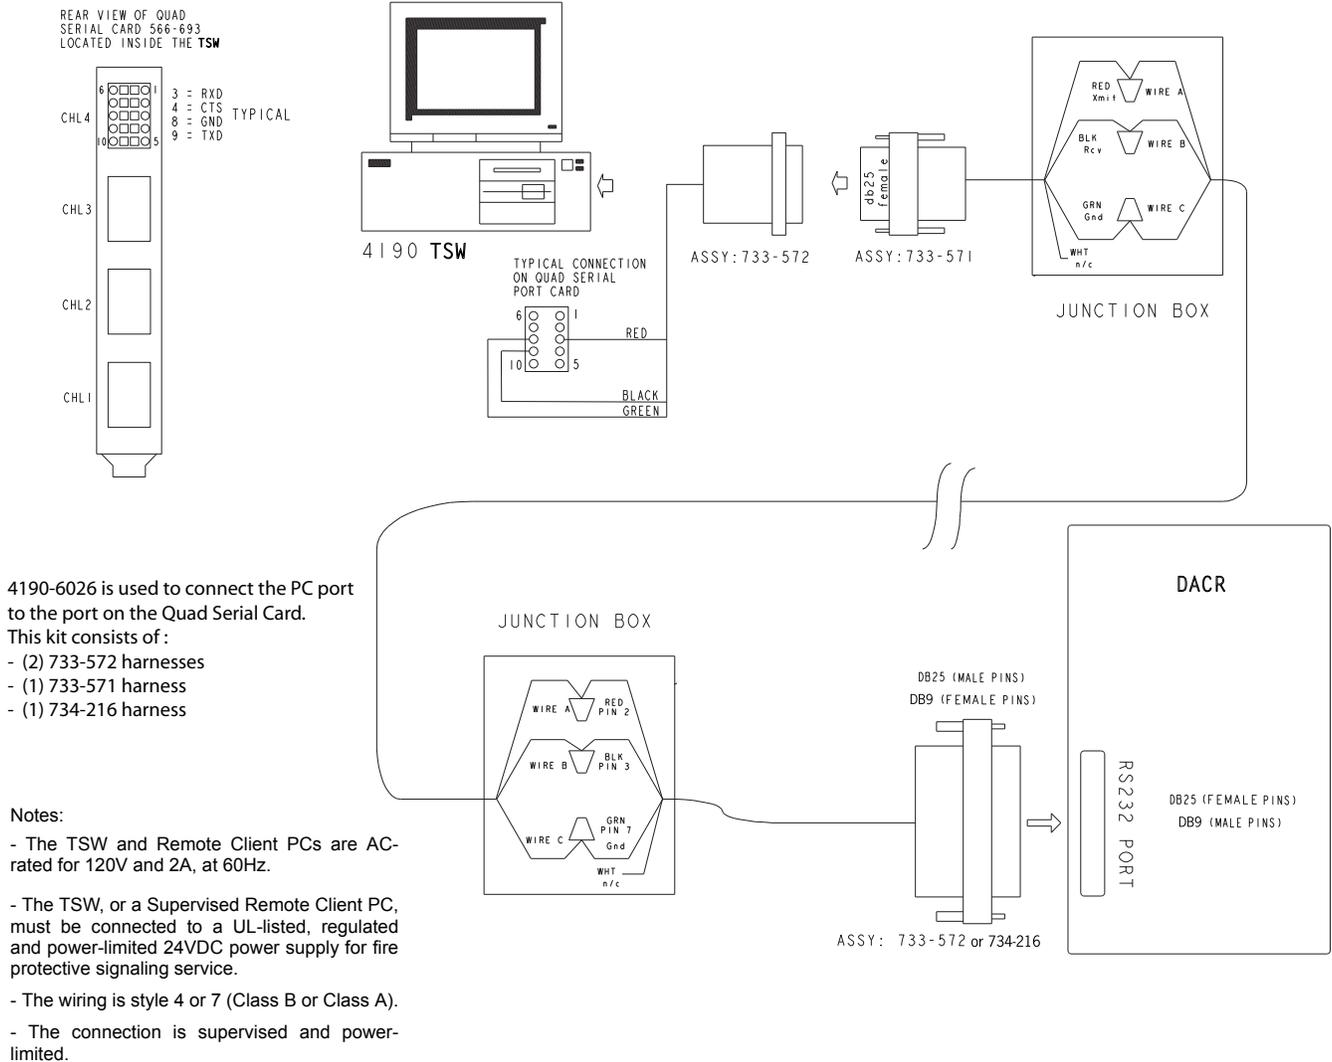

Figure 6-2 Connecting DACR to the TSW PC without Adapter Cable
- If you are connecting the DACR to the TSW PC without an adapter cable (using DB25 connector), refer to the diagram in Figure 6-2 for details.